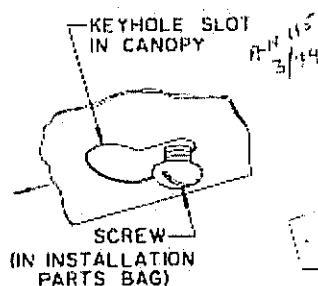

FIGURE 5
5. Remove the hood and start all four screws in the center of the narrow neck of the keyhole slot marked on the cabinet bottom. (Figure 5)